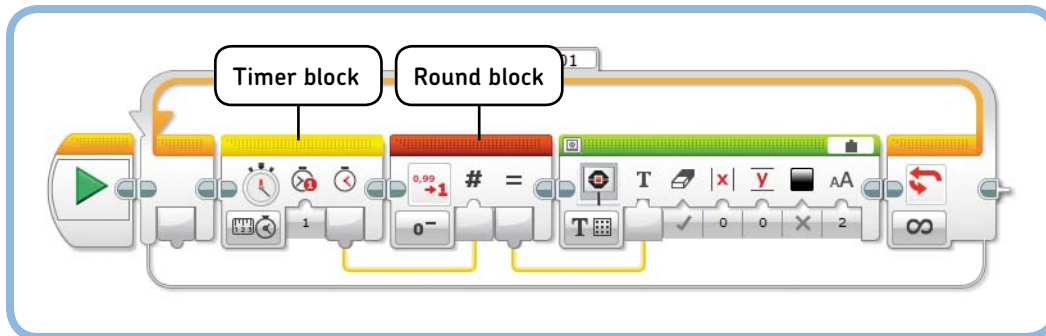

Figure 15-12: The *RoundTime* program
The *RoundTime* program (see Figure 15-12) displays the time elapsed since the start of the program on the EV3 screen by rounding the decimal timer value (such as 3.508) down to a whole number of seconds (3).